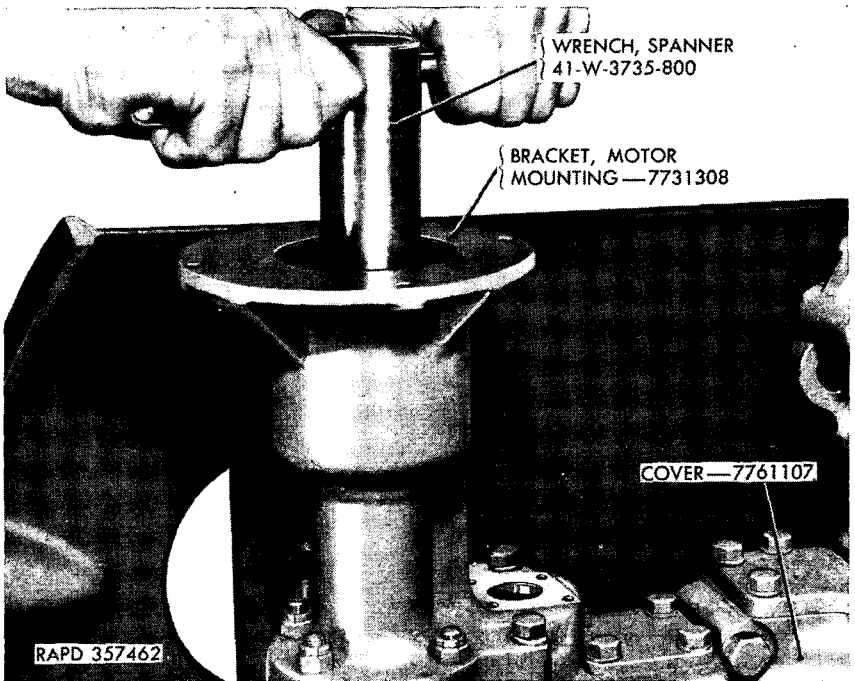

Figure 57. Removing or installing of bearing lock nut on drive gear shaft.
d. REMOVE HYDRAULIC MOTOR MOUNTING BRACKET AND DRIVE GEAR ASSEMBLY (figs. 57 and 58).
(1) Remove hydraulic locking cylinder (*c* above).
(2) Tap Woodruff key out of drive gear shaft. Straighten ear of bearing lock washer. Remove nut with spanner wrench (41-W-3735-800) (fig. 57). Remove lock washer. Drive out straight dowel pin from bracket and housing. Remove dowel bolt, three screws, two bolts, and lock washers. Lift off motor mounting bracket with drive gear assembly from traversing gear housing and cover.